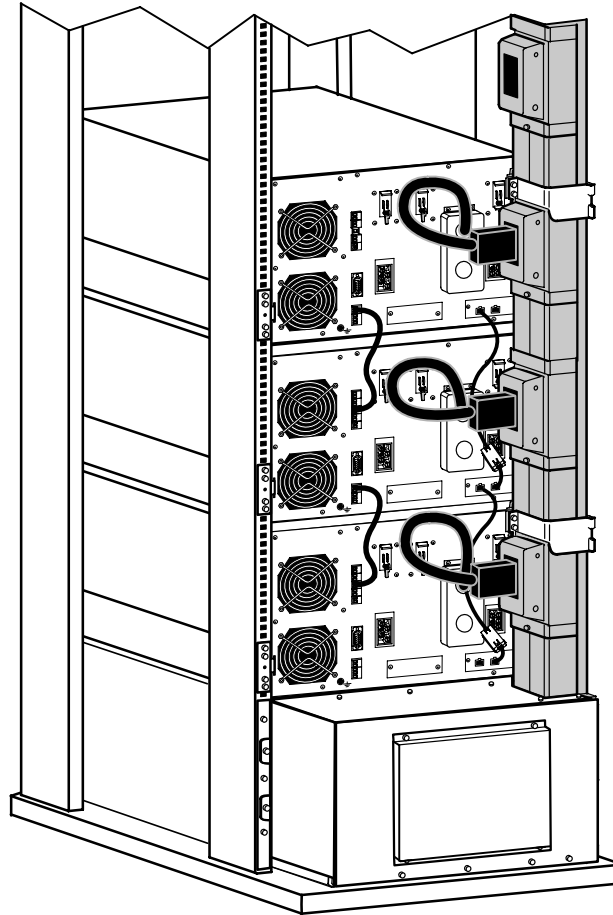

Figure 44. Connecting UPSs to the BladeUPS Bar (Bottom Entry Shown)
19. Connect the parallel input cord from each paralleled UPS to the BladeUPS Bar in the rack as shown in Figure 44.